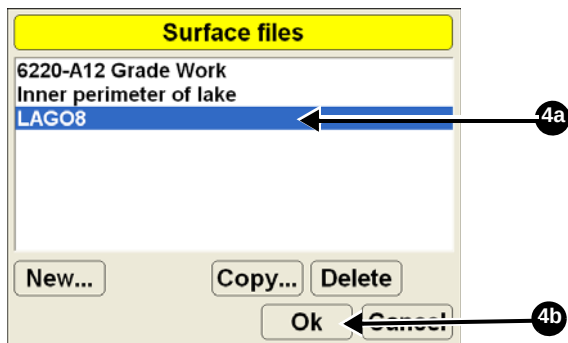

Figure 3-16. Applying a Reference Surface File
4. If needed, select the reference surface file for the jobsite and press **Ok** (Figure 3-16).